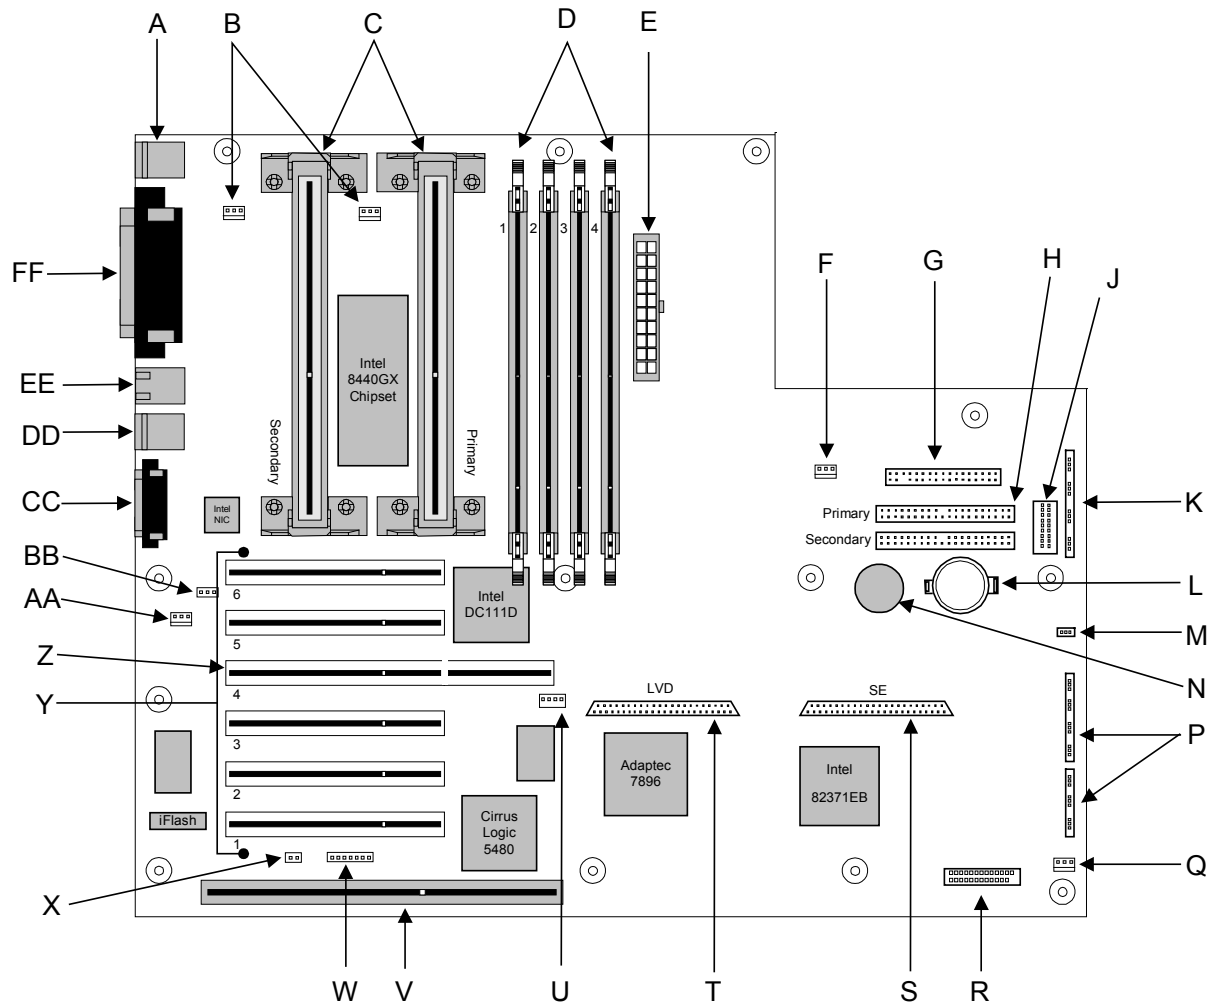

Figure 1
- Four standard 32-bit 33MHz slots on the PCI bus. Slots 1 to 4 in **Figure 1**
- Two 32-bit 66MHz slots using the AGP bus. Slots 5 and 6 in **Figure 1**